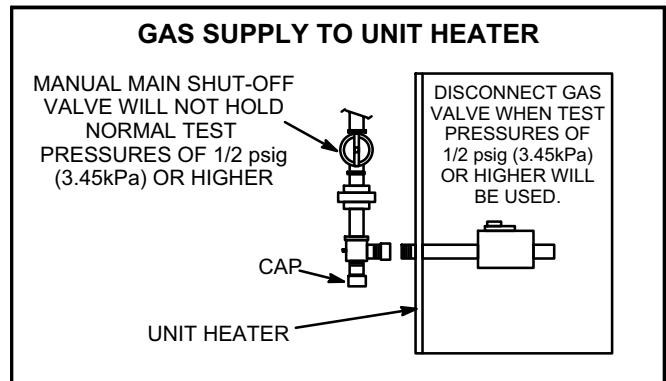

FIGURE 8
**The heater and its individual shut off valve must be disconnected from the gas supply piping system during any pressure testing of that system at test pressures in excess of 1/2 psig (3.45kPa). See figure 8.**